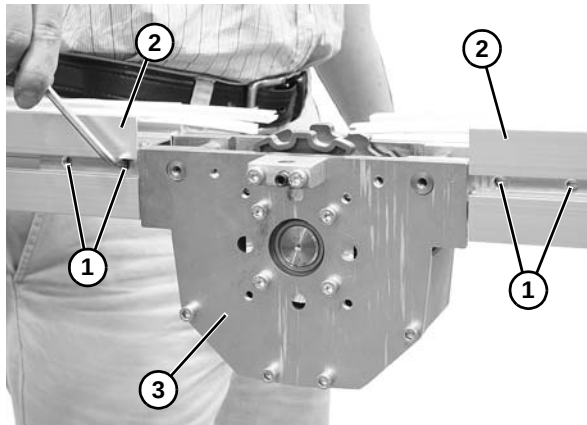

Figure 89
8. Loosen set screws (**Figure 89, item 1**) on both sides of conveyor.
9. Separate conveyor halves (**Figure 89, item 2**) and remove drive assembly (**Figure 89, item 3**).